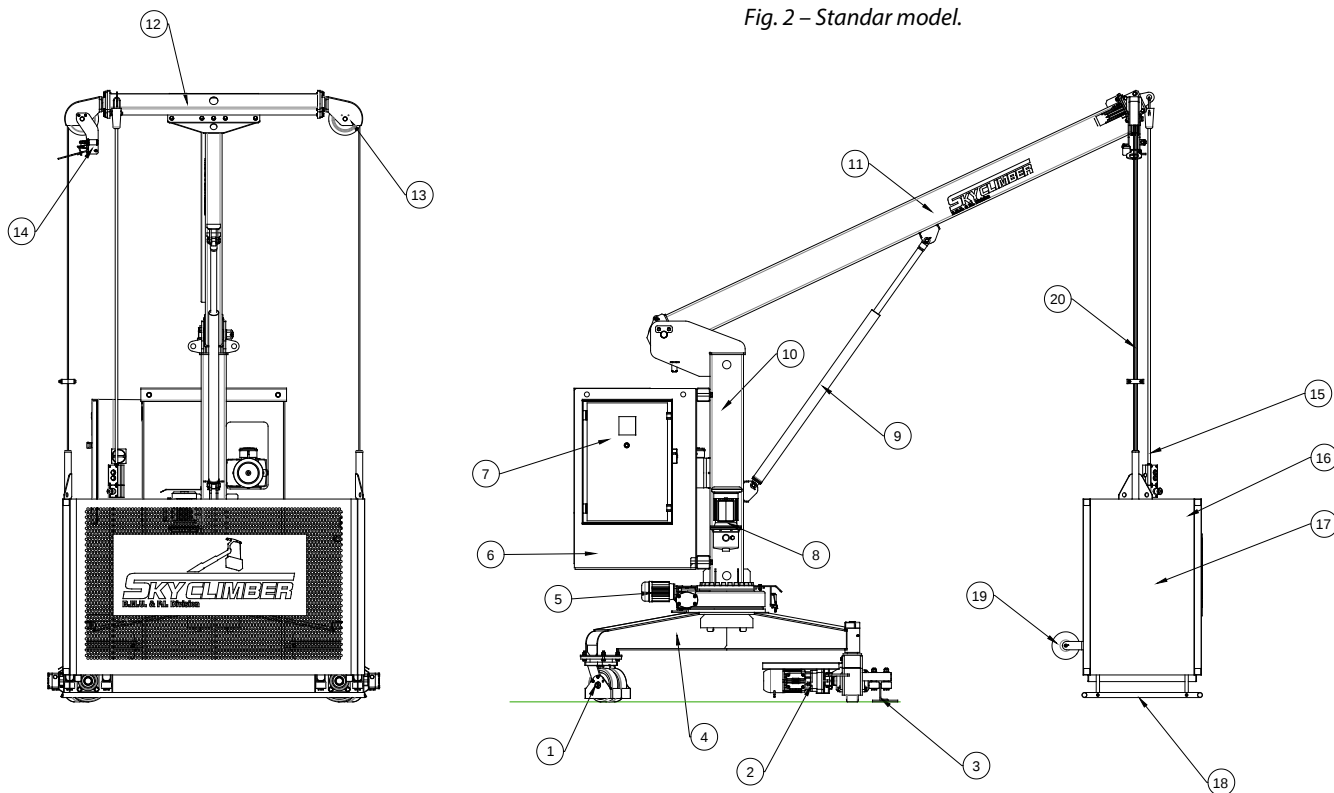

Fig. 3 - references
- Electrical control box panel (fig. 3 - point 7).
- Pendant control (fig. 3 - point 15).
- Control panel on cradle (fig. 3 - point 16).